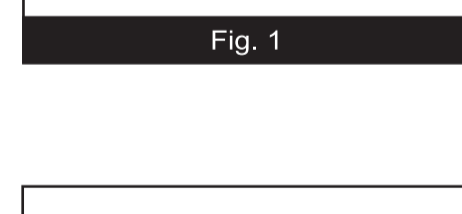

Fig. 2
1. Move the tail stock assembly close to the drive center assembly. (Fig. 2)